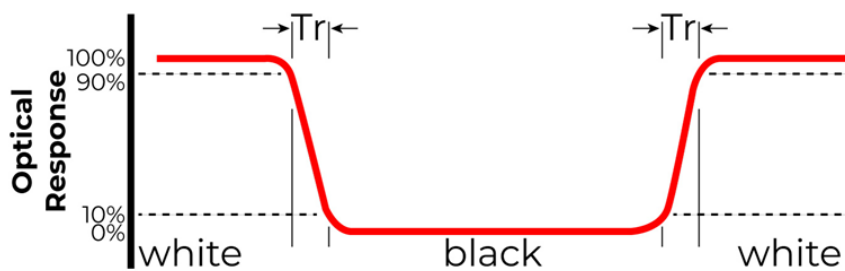

Figure 2. The definition of response time
Note 1. Contrast Ratio (CR) is defined mathematically as below, for more information see Figure 2.
Note 2. Surface luminance is the LCD surface from the surface with all pixels displaying white. For more information see Figure 2.
Note 3. The uniformity in surface luminance δ WHITE is determined by measuring luminance at each test position 1 through 5, and then dividing the minimum luminance of 5 points luminance by maximum luminance of 5 points luminance. For more information see Figure 2.